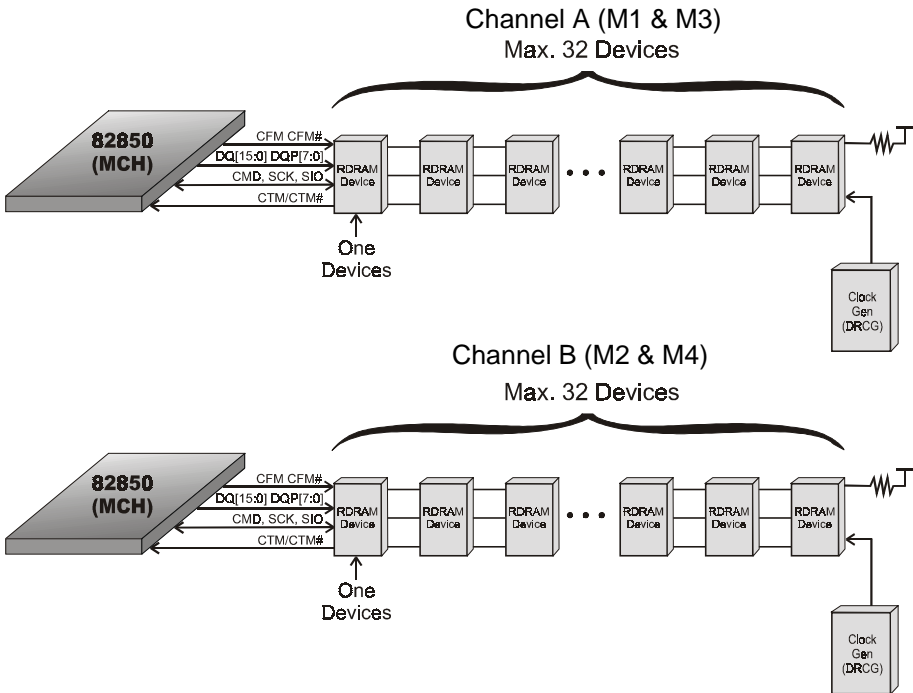

Figure 11: MCH/RDRAM Interconnections
- The board supports a maximum of 32 devices on a RDRAM channel. A Channel is defined as the two RIMM Slots on the motherboard added together. Thus the motherboard has two channel. See Figure 11 for two channel RDRAM interconnections.
The figure 11 below shows the RSL interconnections between 850 (MCH) and two RDRAM channel. This figure describes the logical interconnections, and is not a physical representation of RDARM devices on a motherboard.